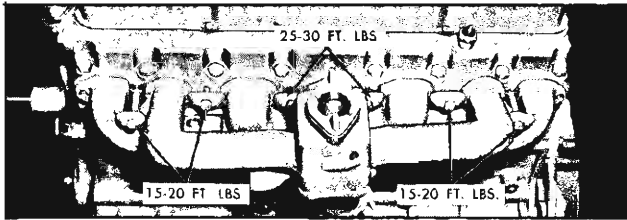

Fig. 2—Intake and Exhaust Manifold Tightening Sequence
5. Remove bolts and clamps that attach manifold assembly to cylinder head and pull manifold assembly off the manifold studs (fig. 2).
6. Remove intake manifold pilot sleeves (fig. 2).